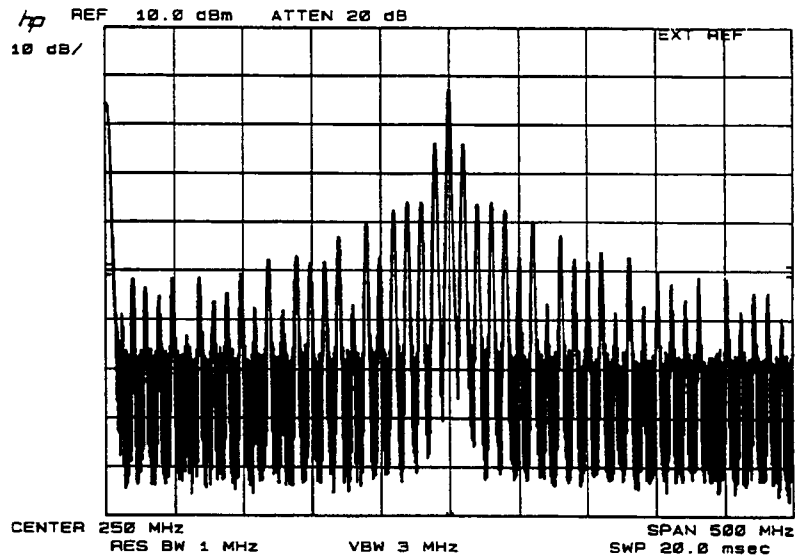

Figure 5-10. Good 10 MHz Asynchronous Data Rate
4. Connect an RF signal generator to the Vector Signal Generator's I0 input. Set the RF signal generator to 10 MHz and +10 dBm. The spectrum analyzer display should look like Figure 5-10.